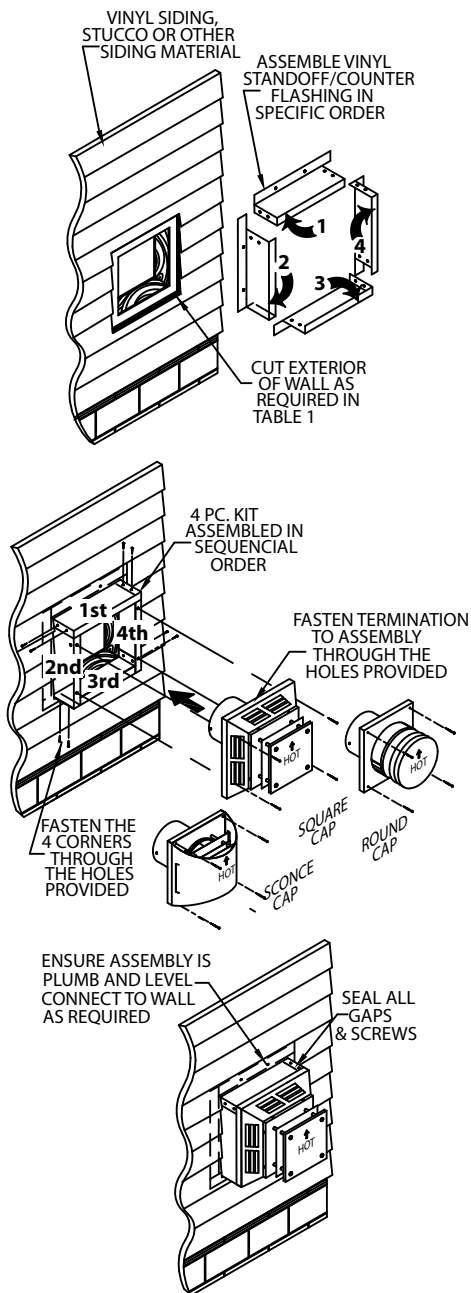

Figure 12
the vinyl siding. Progressing counter-clockwise, place the left side, the bottom side, and then the right side around the opening in the siding. Refer to **Figure 12**.
**flashing:** Center the counter flashing on the wall around the framed penetration. Secure to the wall using the screws provided or other necessary connector depending on the wall material. Attach the Horizontal Cap to the Counter Flashing by lining up the holes in the cap with the holes in the Counter Flashing. Secure using the 4 long screws provided with the cap (**Fig. 12**).